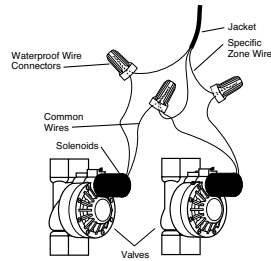

Figure 16: Wiring Valves
- Each valve has two wires. One wire is to be connected as the common. The common wires for all the valves can be connected together to one common wire going to the controller. The other valve wire is to be connected to the specific station wire that will control that valve [See Figure 16].